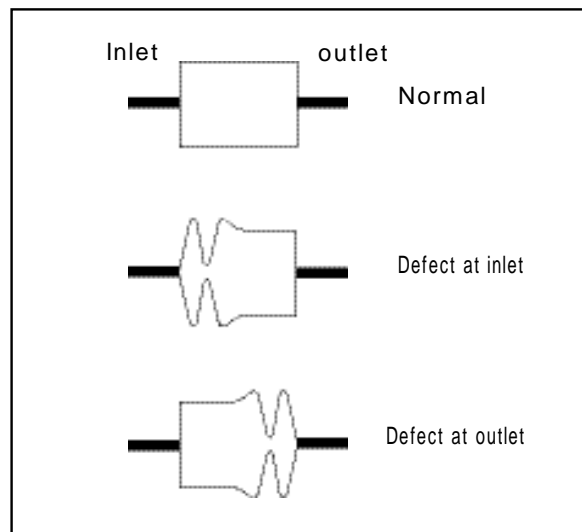

Fig 2-7
4. Check that the waveform of the RF signal is flat at both inlet and outlet(Fig. 2-7 A)
If not flat (B or C in Fig 2-7), do adjustments 2-5-2 through 2-5-5.